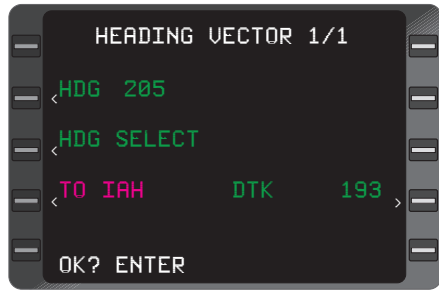

Figure 3-100
6. **ENT** Key - DEPRESS. **OK? ENT** message appears. (Figure 3-100)